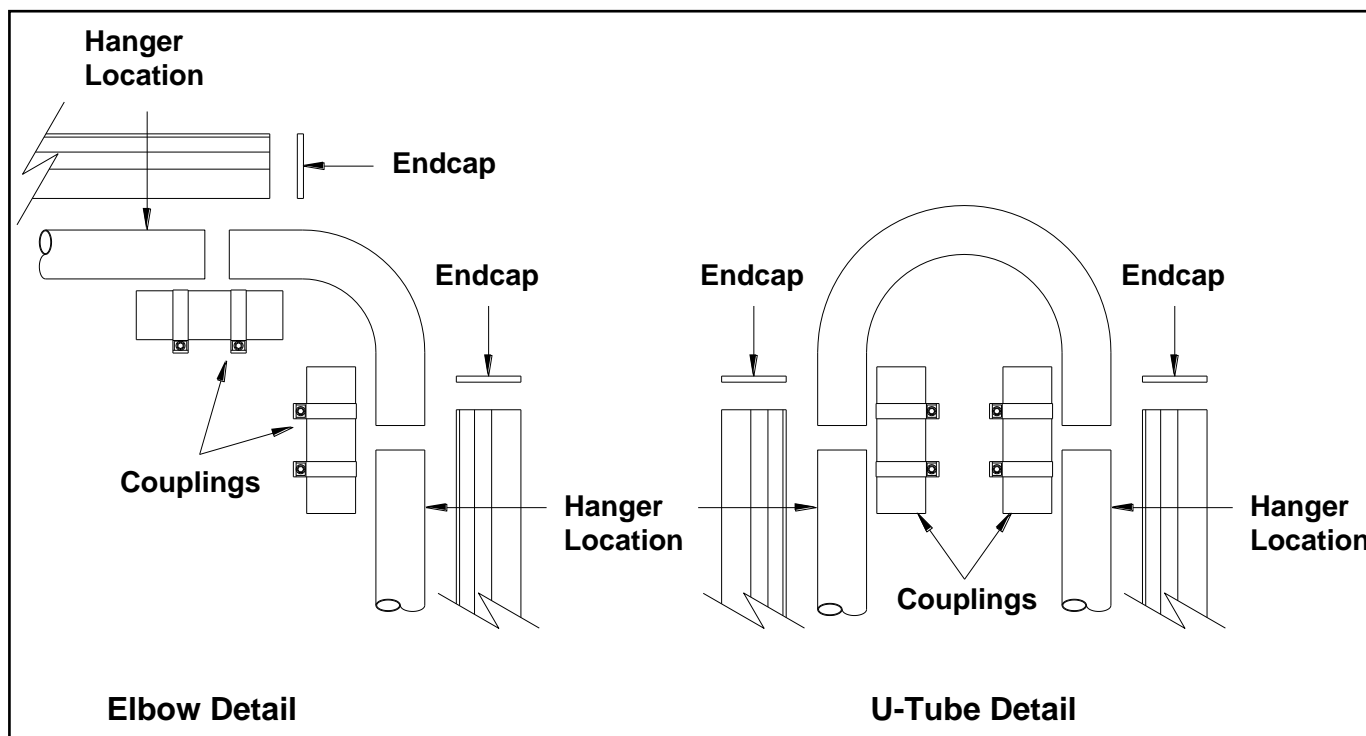

Figure 19: 90° Elbow and U-Tube Assembly Detail
- If required by the heater layout, install 90° elbows or U-tube where indicated. Refer to Figure 19 for details.